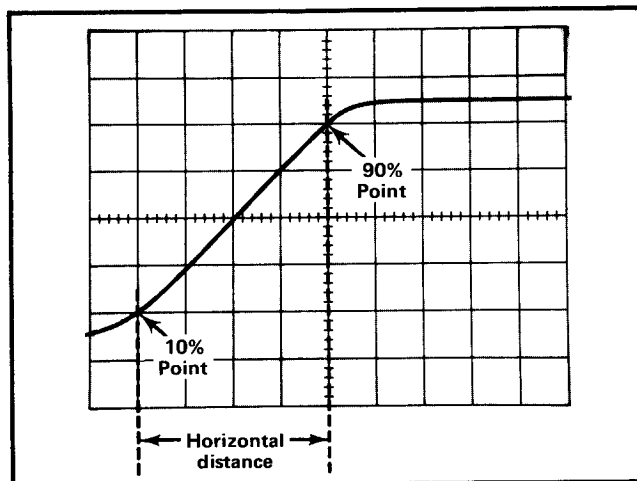

Fig. 2-22. Measuring risetime.
7. Adjust the horizontal POSITION control to move the 10% point of the waveform to the first graticule line. For example, with a five-division display as shown in Fig. 2-22, the 10% point is 0.5 division up from the start of the rising portion.
Example. Assume that the horizontal distance between the 10% and 90% points is four divisions (see Fig. 2-22) and the TIME/DIV switch is set to $1 \mu\text{s}$ with the MAG switch set to X10. Applying the time duration formula to risetime: